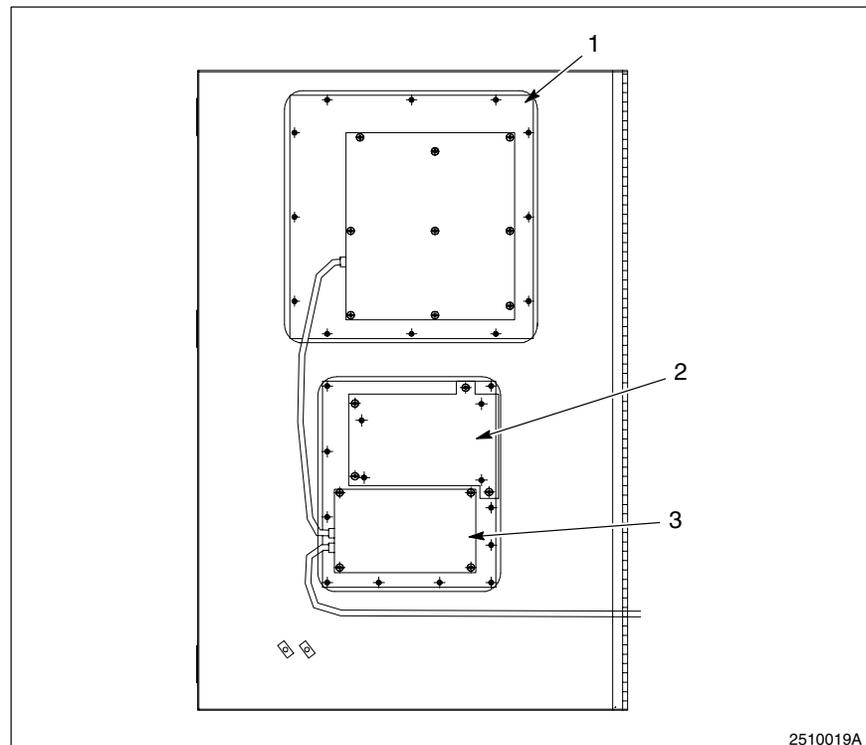

Fig. 5-3 Components Inside the Front Enclosure Door
2. See Figure 5-3.
4. See Figure 5-3.